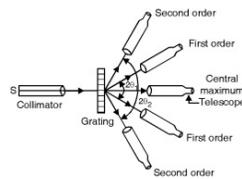

Fig 3.10.1
- The grating spectrum of the given source of monochromatic light is obtained by using a spectrometer. The arrangement is as shown in Fig. 3.10.1.